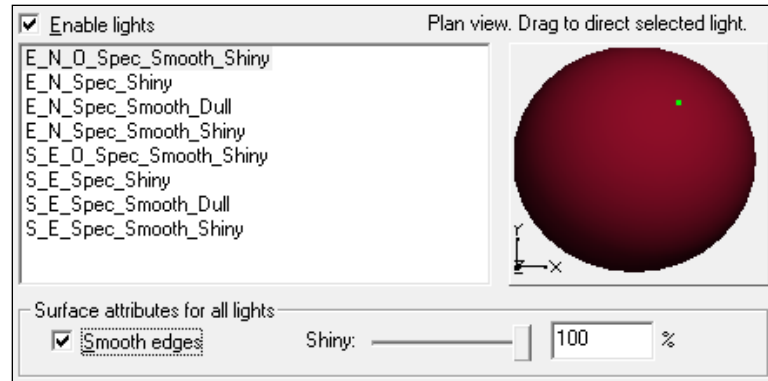

Figure 3 Lighting tab showing lighting direction
18. Click and drag the sphere until the dot is as shown in Figure 3. This gives good lighting contrast for the 3D view. If the dot is red, it is on the other side of the sphere, and will need to be further dragged to be on the correct side of the sphere.